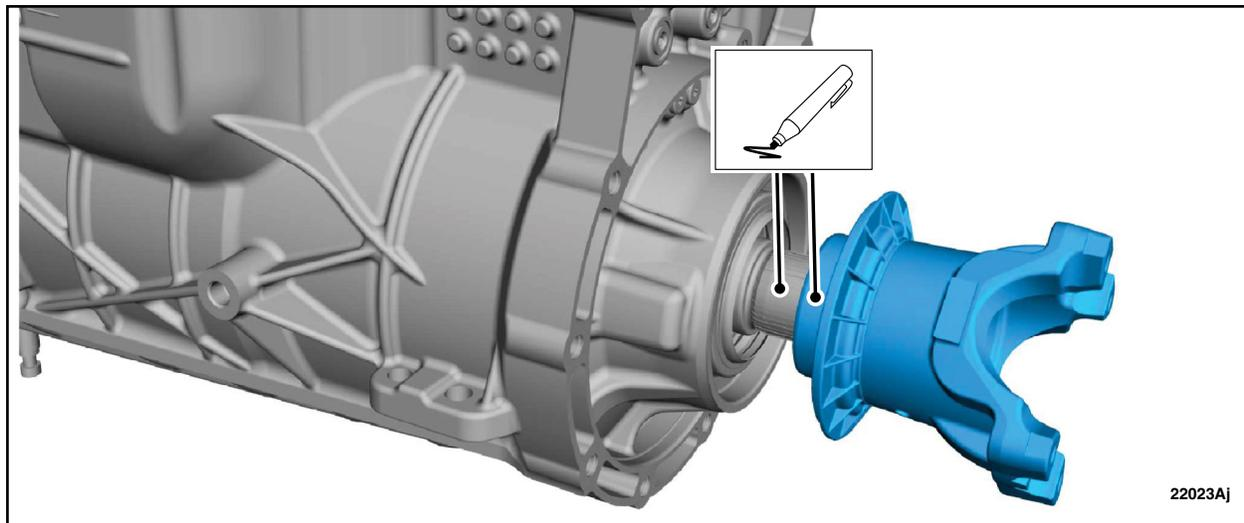

FIGURE 12
15. If ink marks are not present, index mark the output shaft flange to the output shaft. See Figure 12.